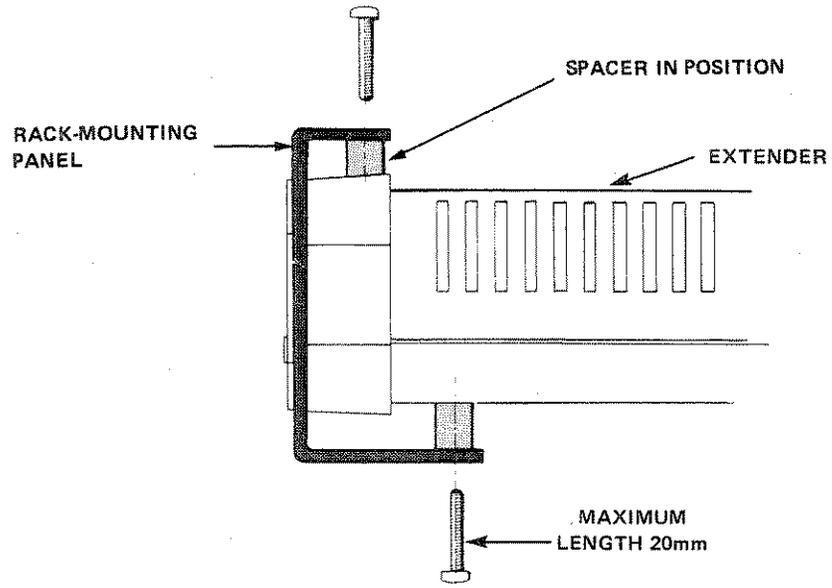

Figure B-3 Mounting in a 19 inch Rack
3. Hold the rack mounting panel with the two fixing holes downward and insert the front of the Extender into the cutout. Secure the Extender with two fixing screws through the bottom holes (Figure B-3).
4. Slide the spacer provided into position on the top of the Extender, and secure spacer, Extender and rack mounting panel with a fixing screw (Figure B-3).